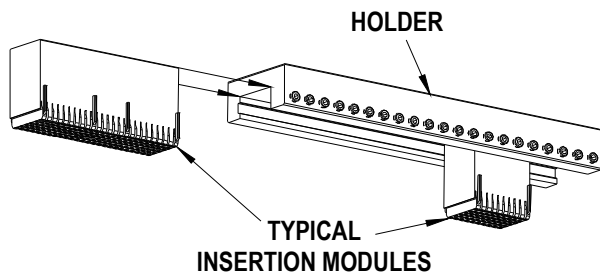

Figure 2-3
2. Slide the insertion modules into the tooling holder in the proper order. See Figure 2-3. The modules are keyed so that they cannot be put in backwards.